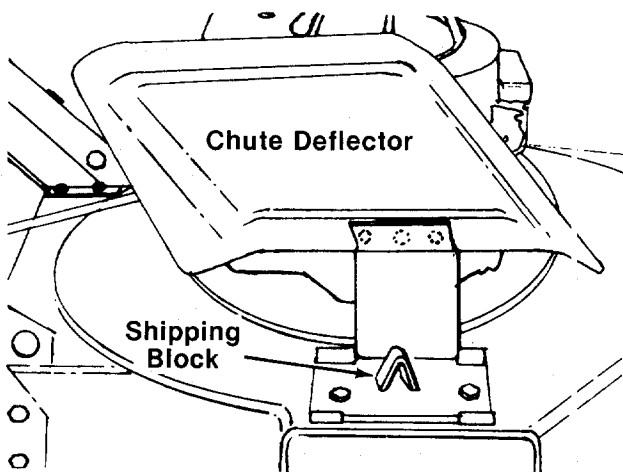

FIGURE 9.
15. If plastic plug is not already assembled on your unit, insert plastic plug (G) into hole in the top rear of the deck by slipping one end of plug into hole, then pressing down on the other end of plug.
16. The chute deflector on your mower is held in an upright position by a shipping block. This block is used for shipping purposes only. It **must** be removed and discarded before the mower is put into operation. See figure 9.